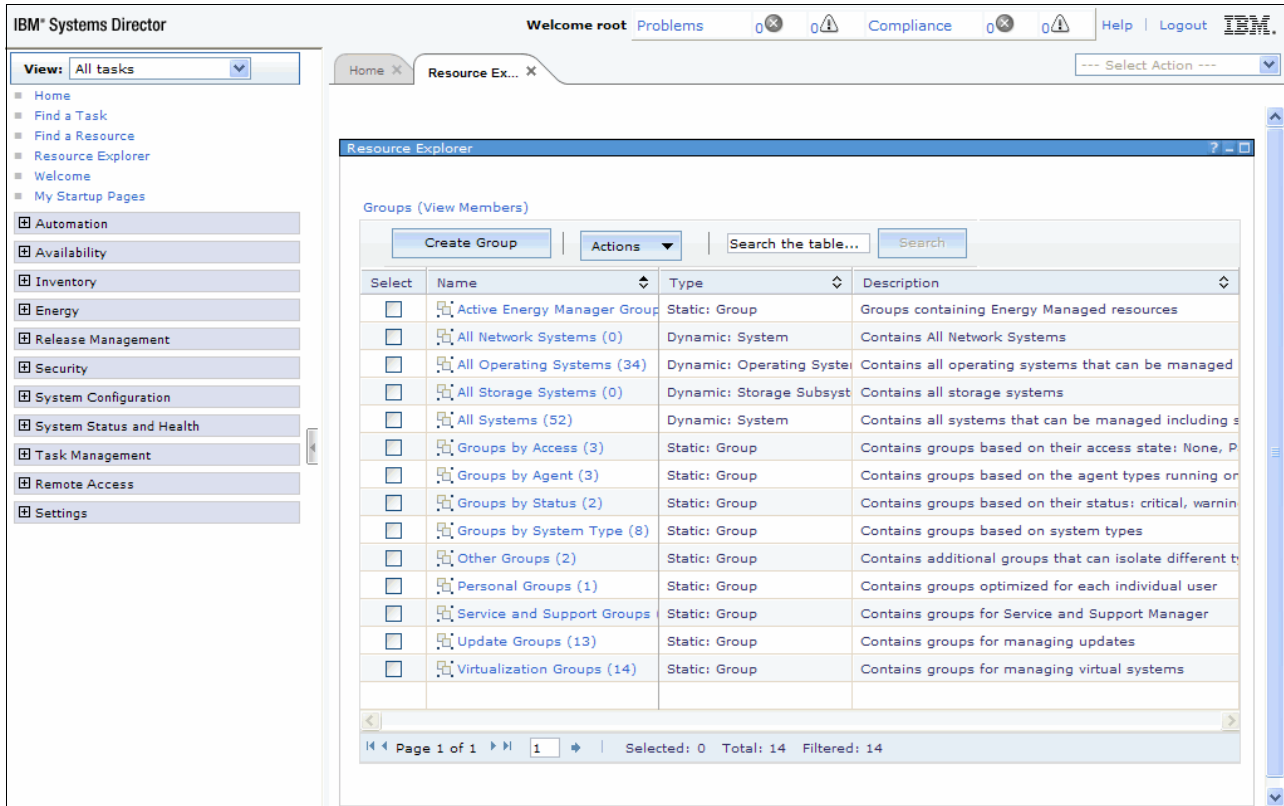

Figure 5-32 Resource Explorer window
- ▶ In the **Resource Explorer** panel, select **Groups by System Type**, as shown in Figure 5-32.